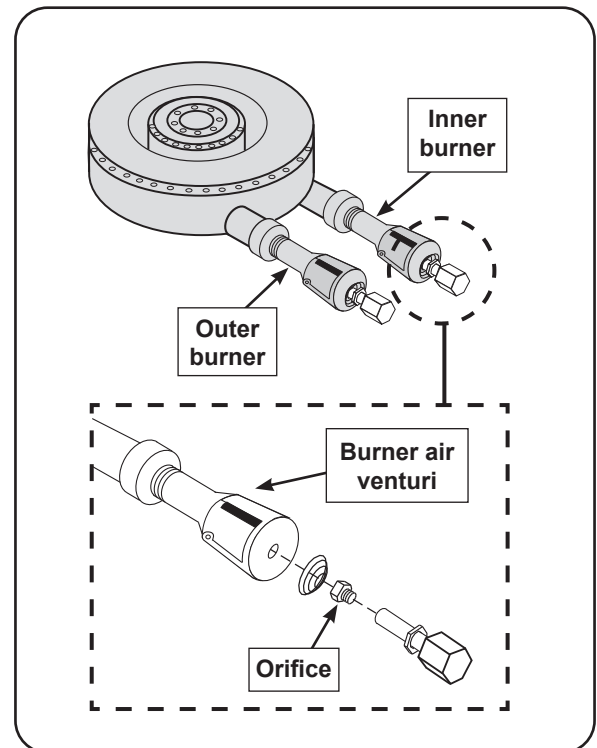

Fig. 35-1 Burner air shutter / orifice orientation
2. Locate the orifices. The orifice size is stamped on each orifice face (see Fig. 35-1).